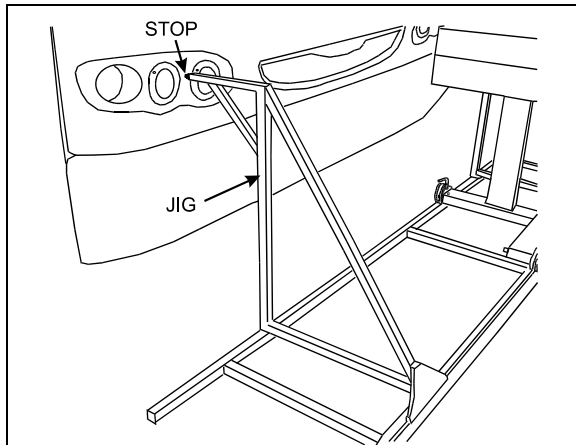

FIGURE 52: INSTALLATION OF JIGS 06499
3. Install jigs #29263 and #29262 onto the support rail. Position the support rail so that both stops are centered between the two beams (Fig. 52). Mark the position for future reference.